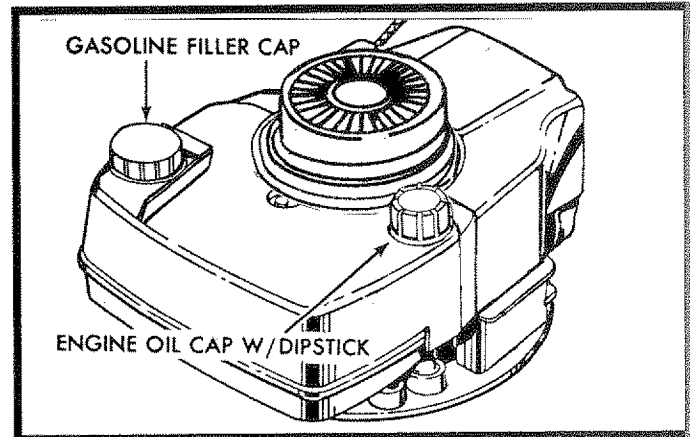

FIG. 9
- Remove Engine Oil Cap (See Fig. 9) and fill to the FULL line on the dipstick.
- Fill gasoline tank with fresh, clean unleaded gasoline. DO NOT USE PREMIUM GASOLINE. BE CAREFUL NOT TO OVERFILL TANK (SEE FIG. 9).